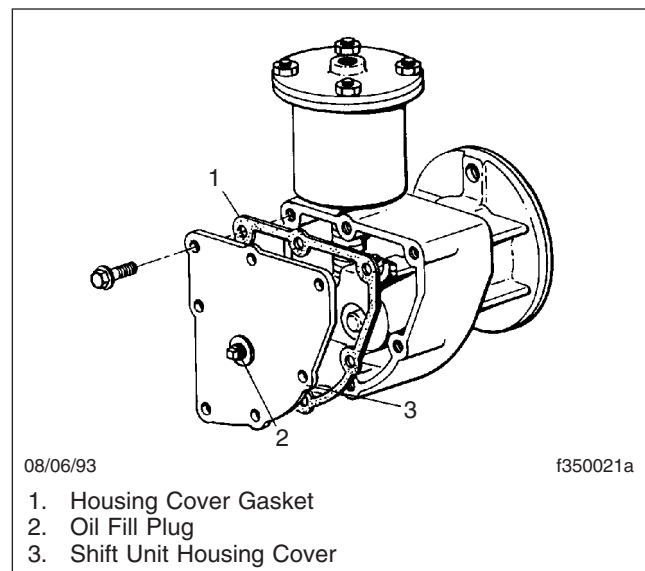

Fig. 7, Two-Speed-Axle Shift Unit
1. Remove the shift unit housing cover. See Fig. 7. Drain and discard the old lubricant. Discard the housing cover gasket.
1. Clean the shift unit oil fill plug, and the area surrounding the plug. See Fig. 7. Turn the fill plug in a counterclockwise motion and remove the plug.